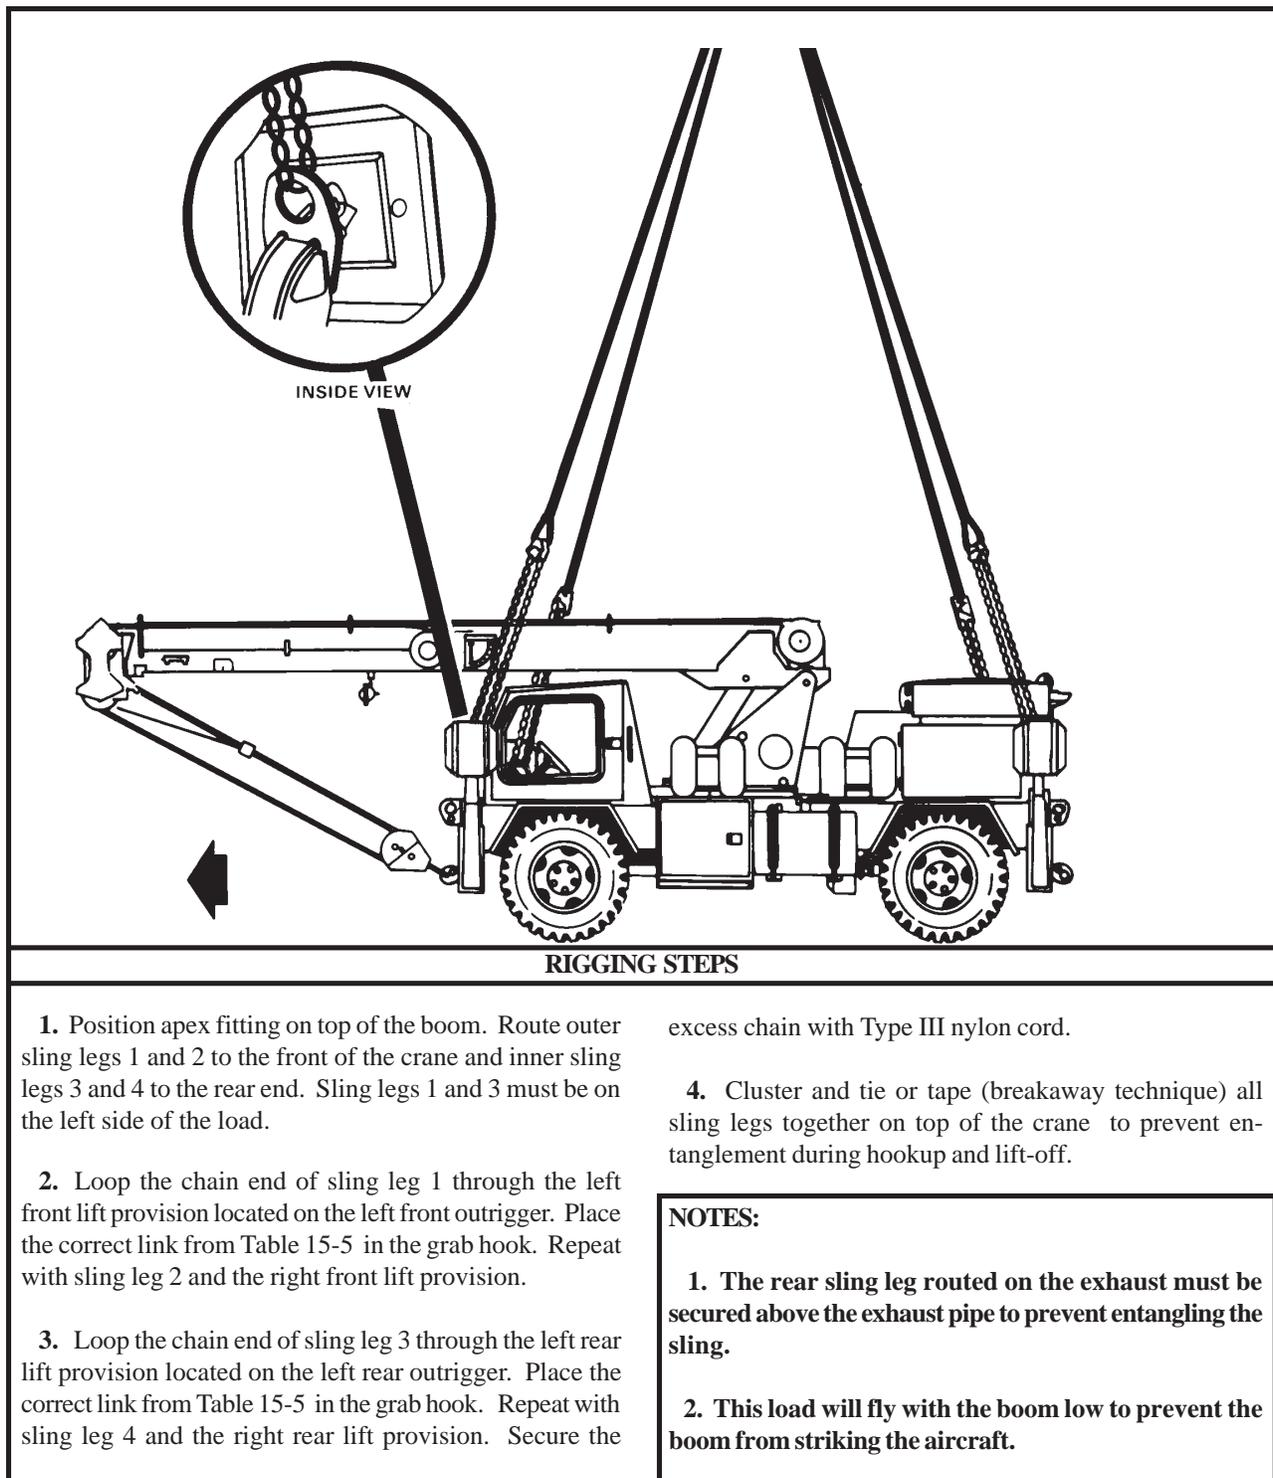

Figure 15-5. Crane, Self-Propelled, for Army Aircraft Maintenance and Positioning (SCAMP)
(2) **Rigging.** Rig the load according to the steps in Figure 15-5.
(4) **Derigging.** Derigging is the reverse of the preparation and rigging procedures in steps d (1) and d (2).